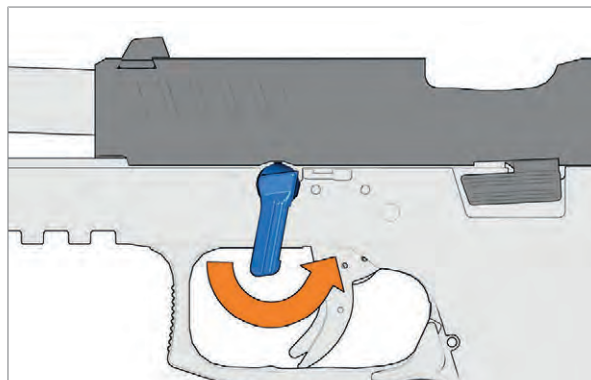

Fig. 57: Turning the disassembly lever anticlockwise
7. Turn disassembly lever anticlockwise as far as it will go (*Fig. 57*).